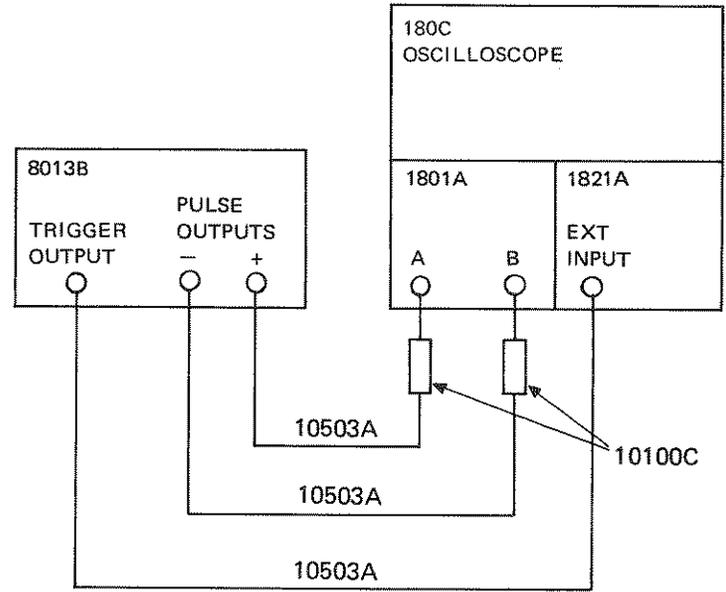

Figure 3-4. Initial control settings and test equipment
3-14 In this mode the 8013B requires no external signal to produce an output signal. Rate, delay, width, amplitudes etc. are all adjustable from the front panel controls. The initial control settings (also shown in Figure 3-1) are given to assist someone unfamiliar with the operation of the 8013B. The positive and negative pulse outputs (17) and (18) and the TRIGGER OUTPUT (21) should be connected to an oscilloscope using a 50 ohm system (as shown in Figure 3-4). The oscilloscope (an HP 180C mainframe with 1801A and 1821A plug-ins) should be set with the sweep time at $20\mu\text{s}/\text{div}$ and the sensitivity at $2\text{V}/\text{div}$.
- PULSE PERIOD ② .1m-10m
- VERNIER ③ CCW
- PULSE DOUBLE/NORM ④ NORM
- PULSE DELAY ⑤ 1μ-1m
- VERNIER ⑥ CCW
- PULSE WIDTH ⑦ 1μ-1m
- VERNIER ⑧ Center
- AMPLITUDE ⑨ 2.0-5.0
- VERNIER ⑩ CW
- OFFSET VERNIER ⑪ Center